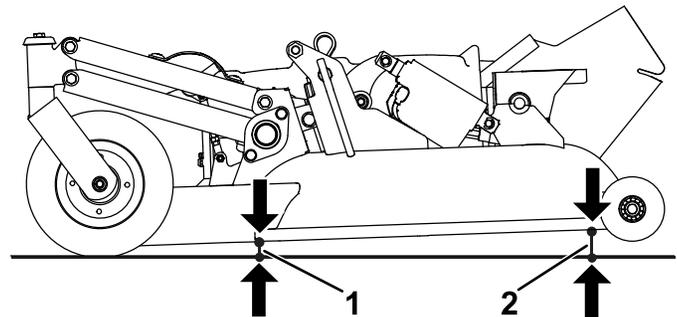

Figure 99
3. Measure the distance between the ground and the forward-most point of the cutting unit (Figure 99).
4. Measure the distance between the ground and the rear-most point of the cutting unit (Figure 99).